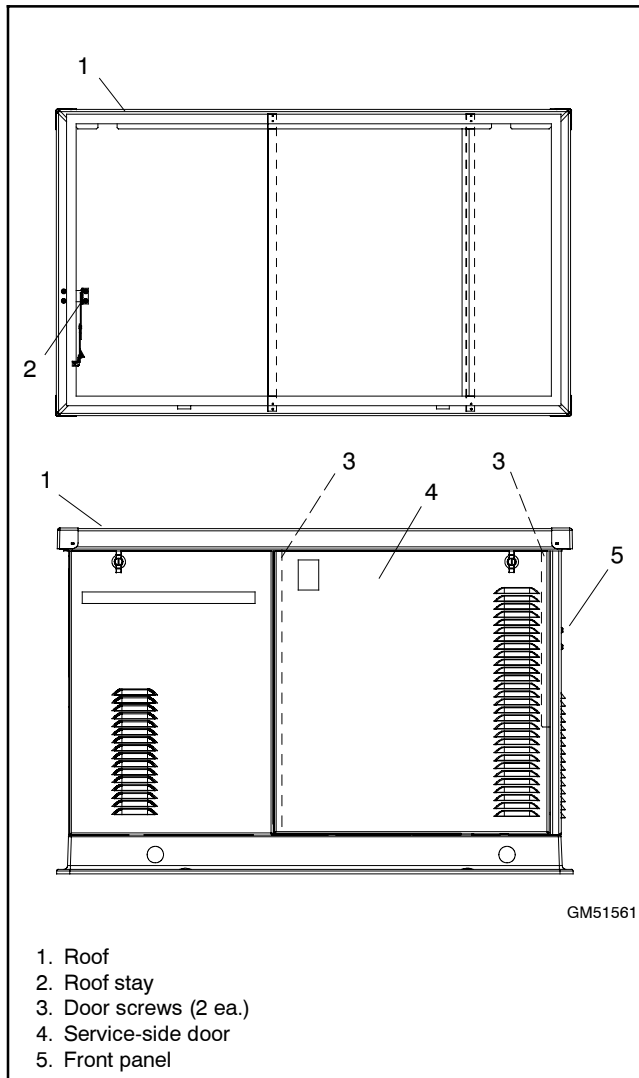

Figure 4-17 Enclosure Roof and Door
1. Open the enclosure roof. Prop the roof open using the roof stay or remove the roof if desired. See Figure 4-17.
3. Remove 2 door screws. Lift the door up and off. See Figure 4-17.